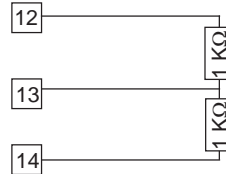

Fig.14
- b) Two resistors (1 KΩ, 1/4 W, 1%) must be connected to the instrument under test as shown in Fig. 14.